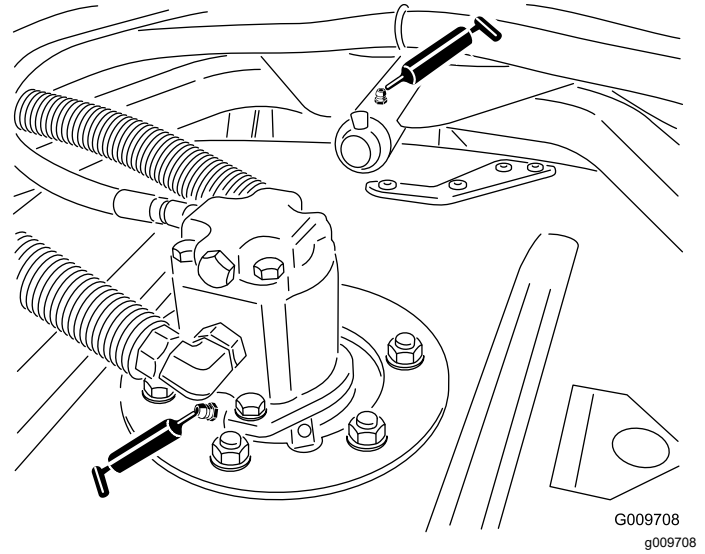

Figure 44
- Cutting-unit spindle-shaft bearings (2 per cutting unit) as shown in Figure 44
- Cutting-unit carrier-arm bushings (1 per cutting unit) as shown in Figure 44